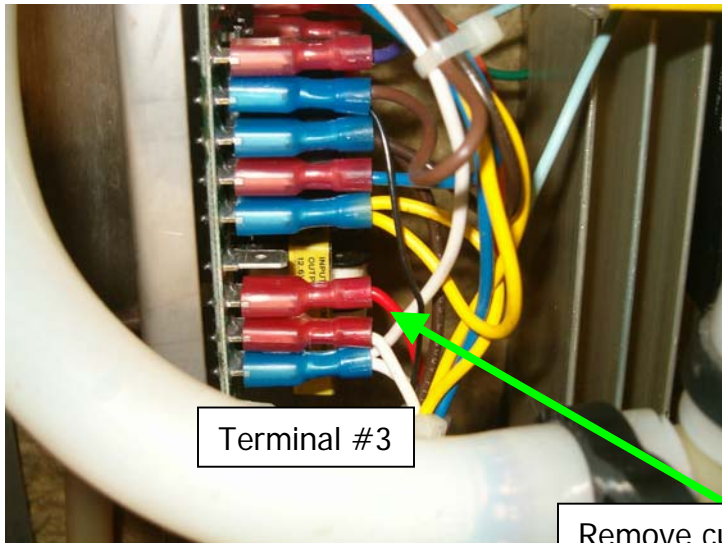

Fig. 1
- 1) Disconnect the current RED wire harness connection on terminal #3 of the water sense PCB (see Fig. 1).